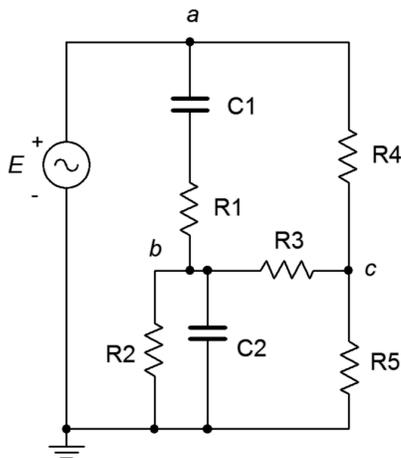

Figure 5.50
86. Find voltage  $v_{bc}$  in the circuit of Figure 5.50 through the use of one or more delta-Y conversions.  $E = 100\angle 0^\circ$ ,  $R_1 = R_2 = 2\text{ k}\Omega$ ,  $R_3 = 3\text{ k}\Omega$ ,  $R_4 = 10\text{ k}\Omega$ ,  $R_5 = 5\text{ k}\Omega$ ,  $X_{C1} = X_{C2} = -j2\text{ k}\Omega$ .